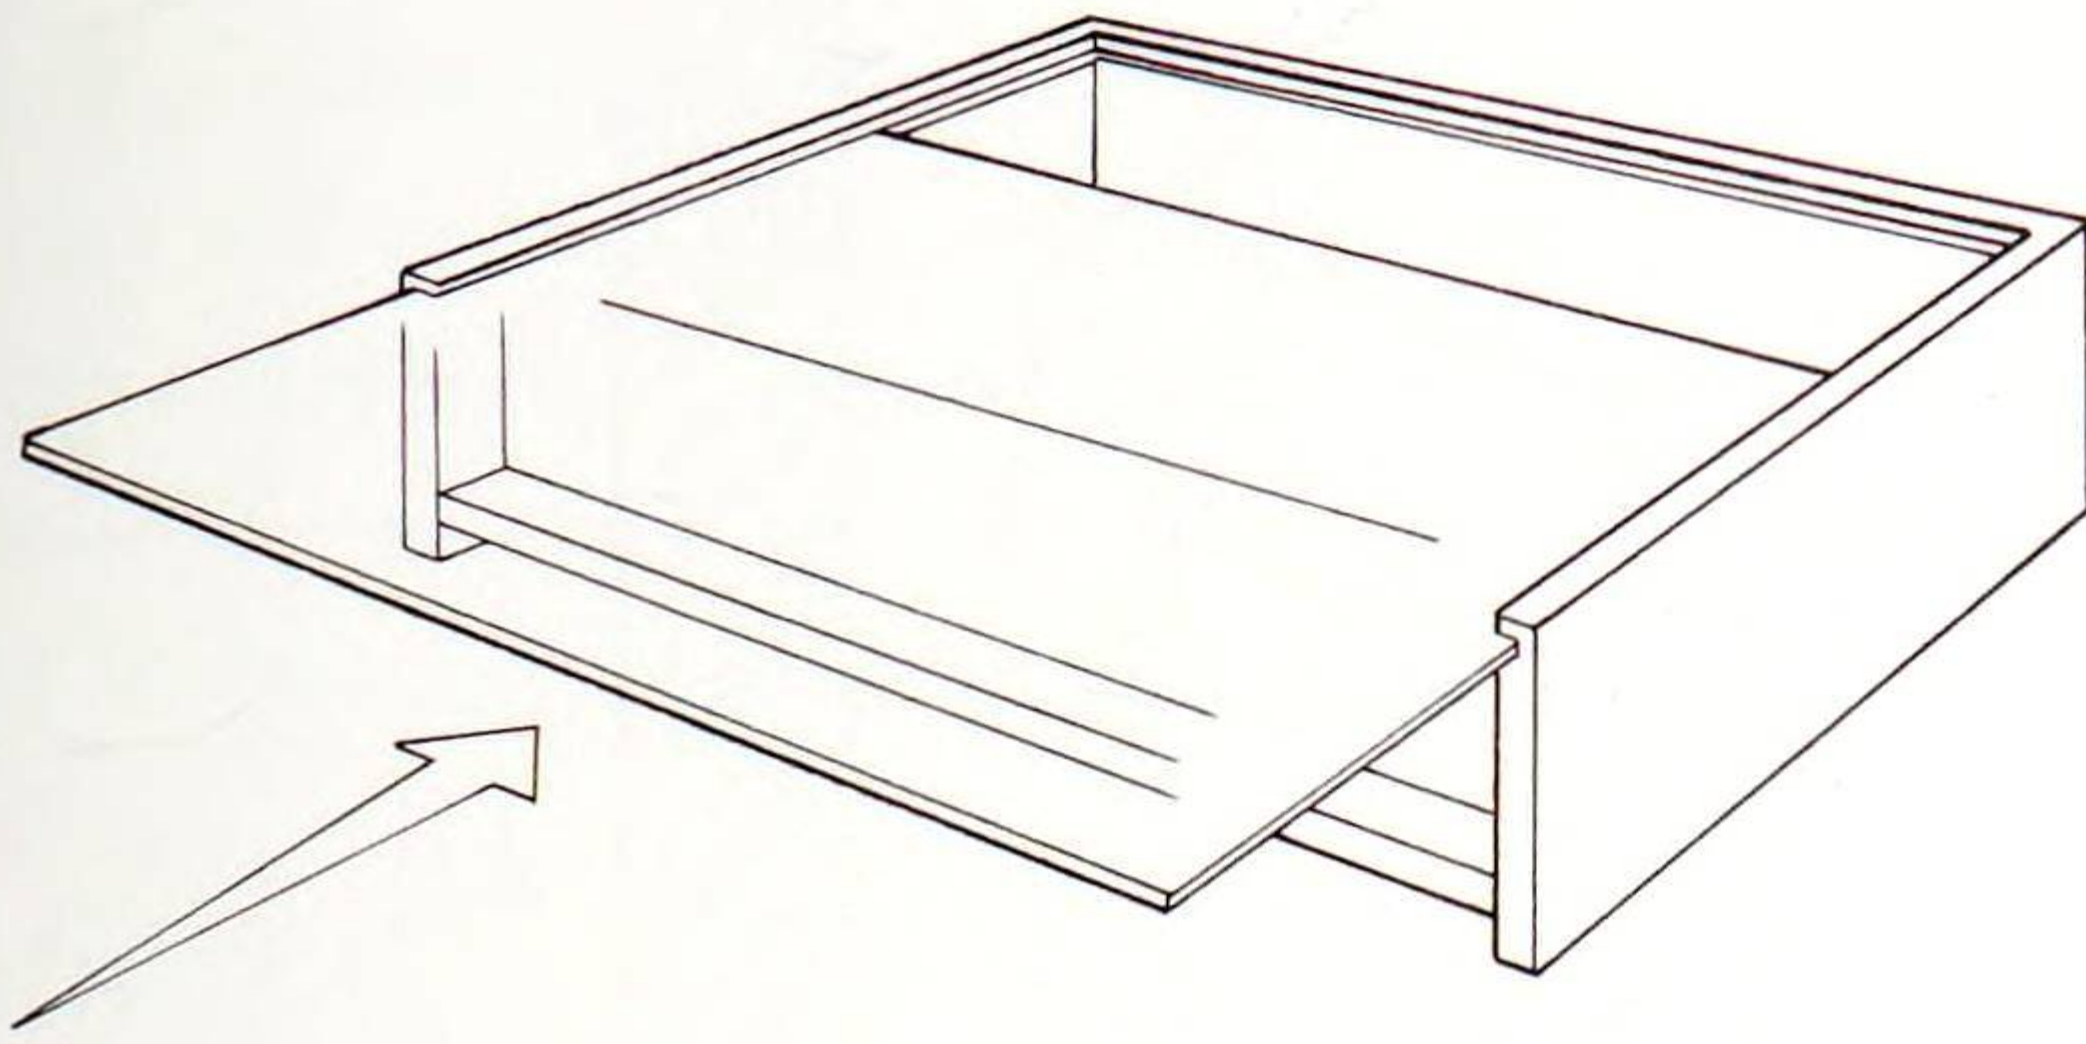

Fig. 5 Slide the back into the groove from the bottom
5. Then finish all the internal surfaces and glue and assemble the main carcass. When the glue has dried you can cut the back, fit in the groove and slip it in place from the bottom (Fig. 5), securing with screws into the rear edge of the bottom.